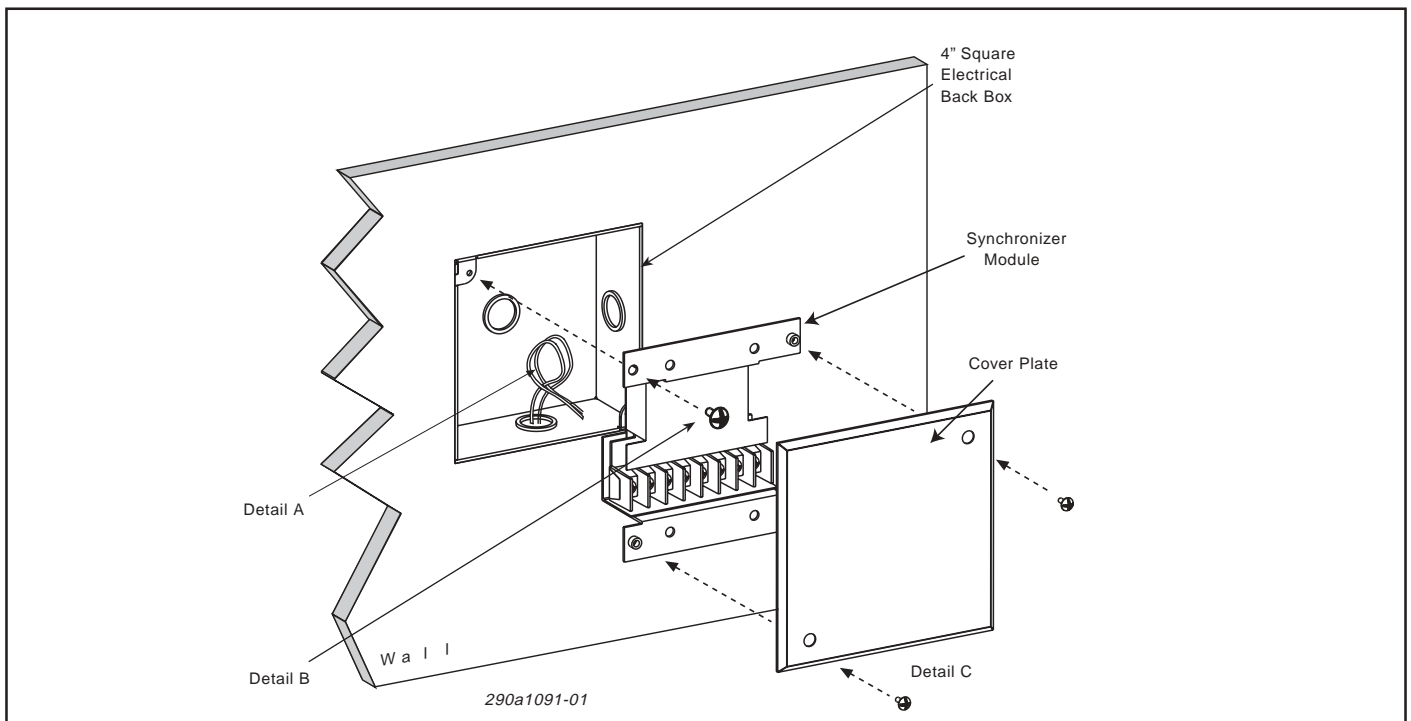

Figure 1. VSYNC Installation.
2. Pull appropriate wiring through knockouts in electrical box (see Figure 1, Detail A).
3. Mount VSYNC in backbox with #8-32 screws provided (Figure 1, Detail B).
2. Attach cover plate to VSYNC with #6-32 screws provided (Figure 1, Detail C) after testing operation.